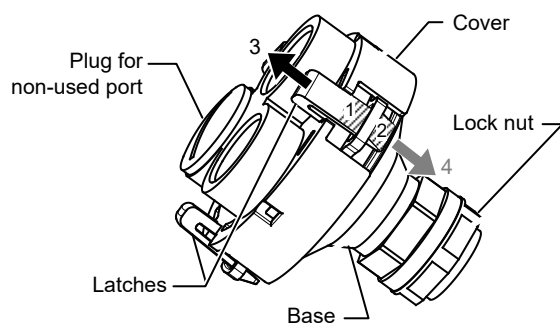

Figure 31. Cover removal from the base
- 1) Attach the cover to the base by simultaneously inserting the 3 male latches of the cover to the 3 female latches of the base. Equally press the force on each latch to the direction '4' in Fig. 31.
- 3) Check that all of the latches are completely locked. If the latches are not completely locked yet, press the force on the latches to the direction '4' in Fig. 31 so that the latches are completely locked.